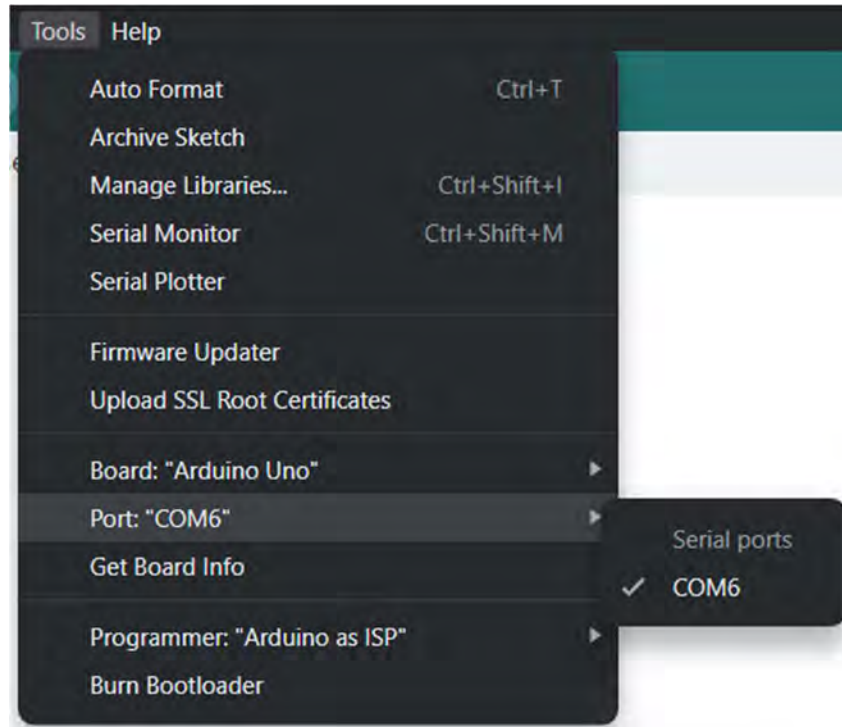
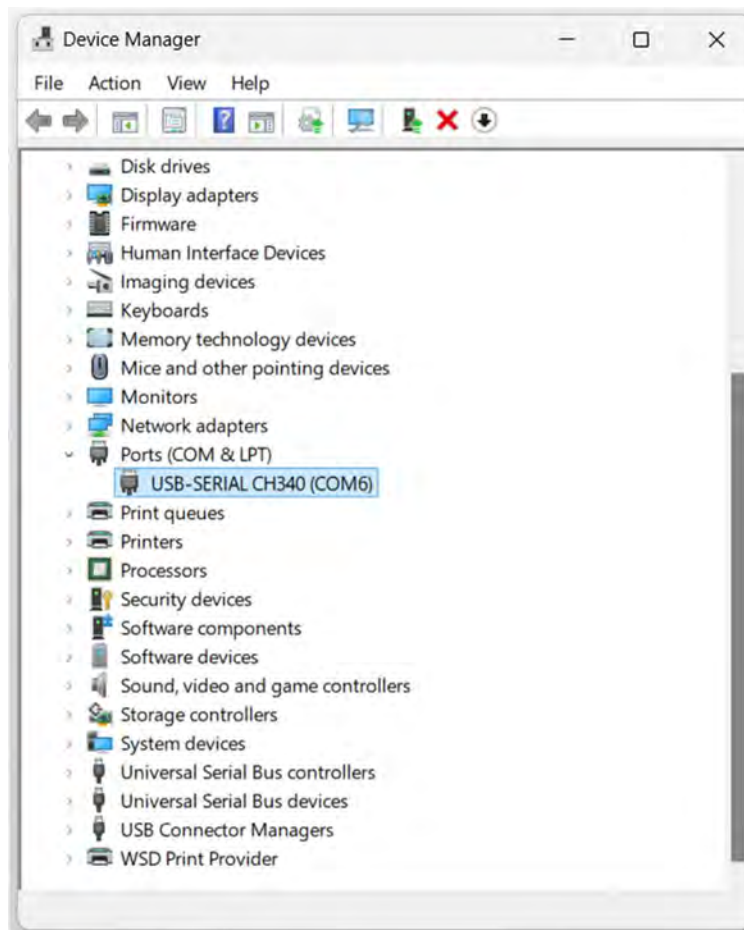

Figure 15: Port selection for the Uno R3+.
Figure 16: Device Manager, Ports.
- **Port selection:** Under “Tools” and “Port:” select the port that is being used with the USB-C cable that was inserted to the computer, as shown in Figure 15. To see the port being used open the Device Manager under section “Ports (COM & LPT)” or similar. The correct port should be labelled with “CH340”. As an example, see Figure 16. There are several reasons why this port or even the entire Ports section may not be showing. See Section 6.1 for details on CH340 driver installation, or Section 0 for troubleshooting help.